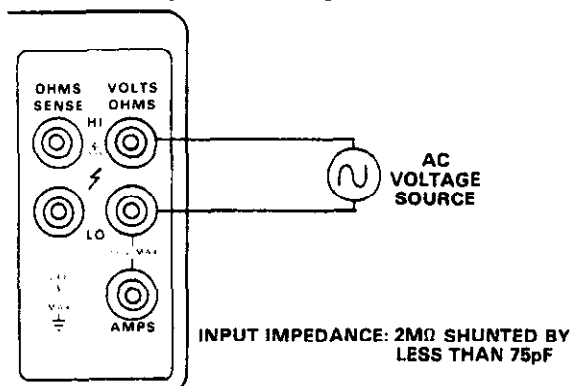

Figure 2-9. AC Voltage Measurement (Front Panel Connections Shown)
6. Connect the instrument to the source as shown in Figure 2-9.